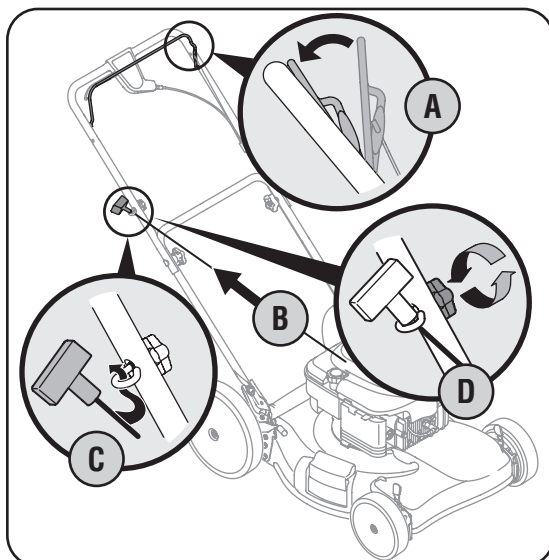

Figure 3-3
- b. Pull starter rope out of the engine. Release the blade control. See Figure 3-3.